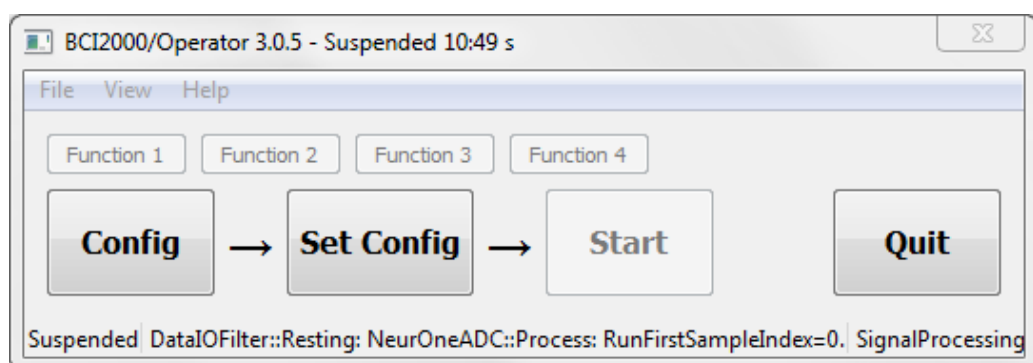

Figure 2. BCI2000/Operator window, which is a link to measurement settings configuration, starting recording and quitting the measurement session.
2. If you see any error messages, select the “BCI2000/Operator” window (figure 2) and click “Config”. Go to “Source” tab and check that the parameter `DriverDataFolder` is your correct NeurOne Driver Data folder.